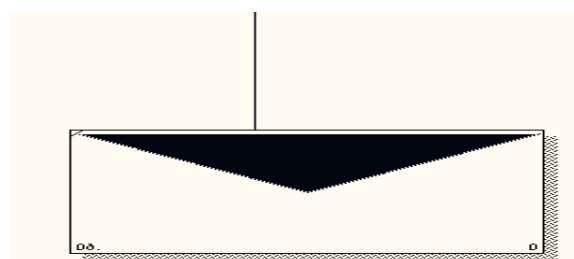

Fig. 1.11. Construction of the control arrow
3. Point a cursor of the mouse to the top side of the block until a dark triangle appears, and then click the left mouse button (fig. 1.11).